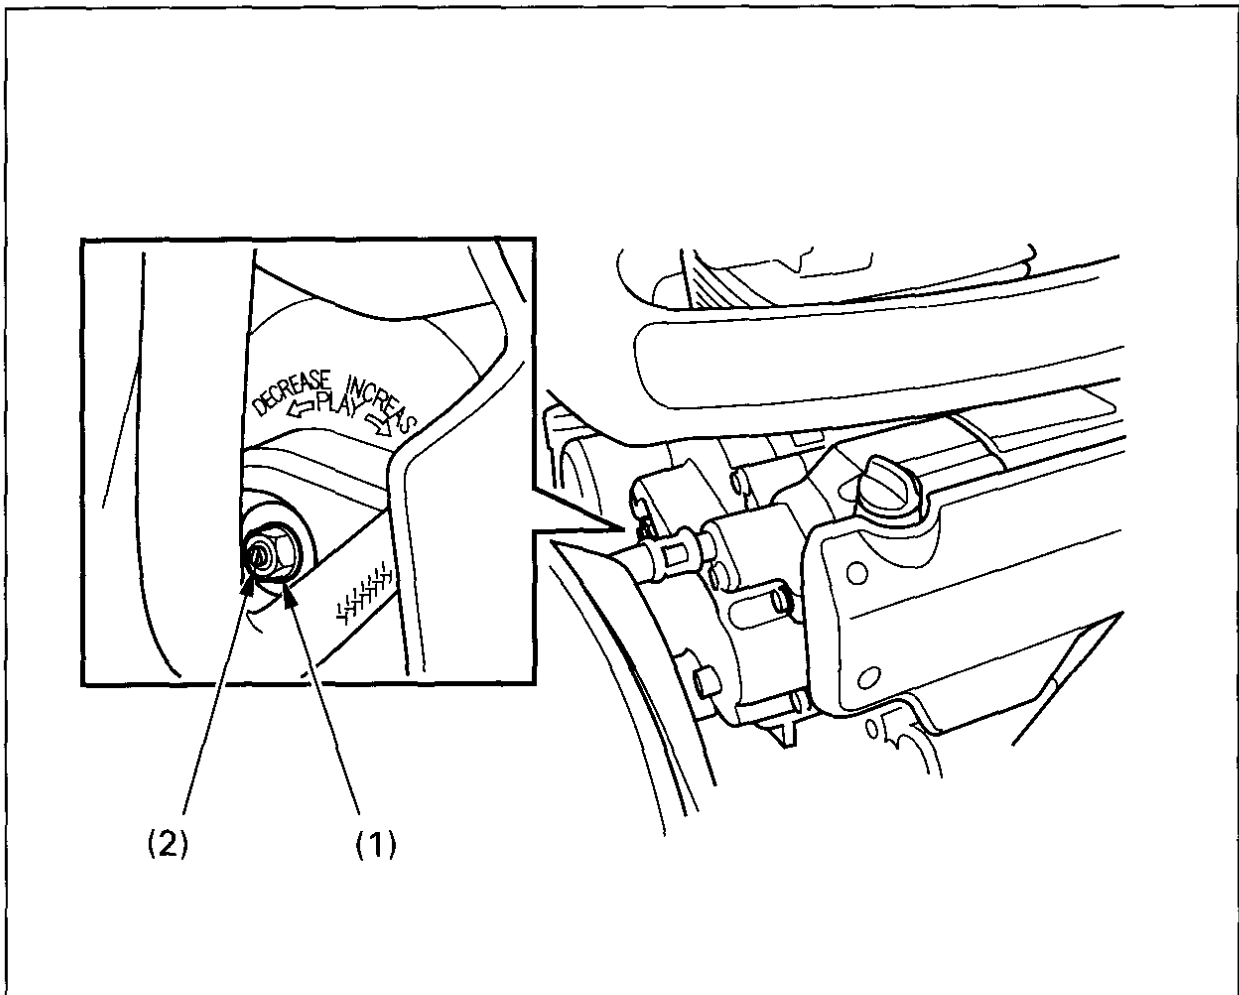

Fig. 4-16 (1) Lock nut
2. Loosen the lock nut (Fig. 4-16), and turn the clutch adjuster (2) counterclockwise until you feel slight resistance.